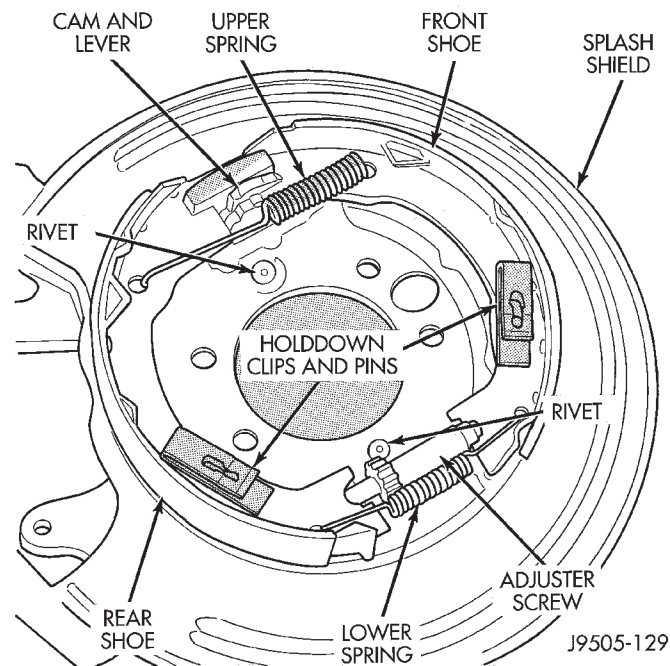

Fig. 57 Parking Brakeshoes Mounted On Shield
(7) Install parking brakeshoes on splash shield. Verify positioning of cam and lever, shoes, springs and holddown clips and pins (Fig. 57).